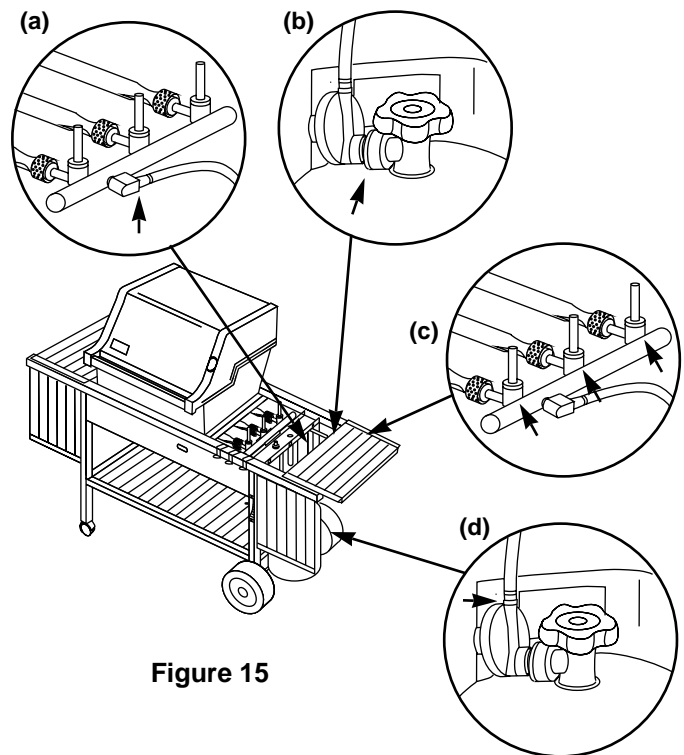

Figure 15
a) Hose to manifold connections. Figure 15 (a).
b) Regulator to tank connection. Figure 15 (b).
c) Valves to manifold connection. Figure 15 (c).
d) Hose to regulator connection. Figure 15 (d).